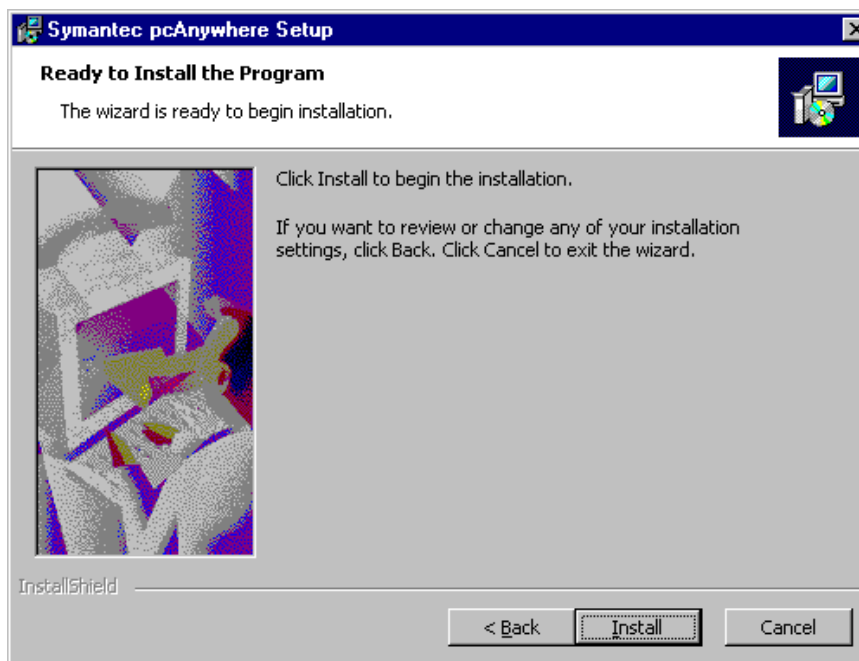

Fig. 20
- Window "Ready to Install the Program" (Fig. 20) is displayed.